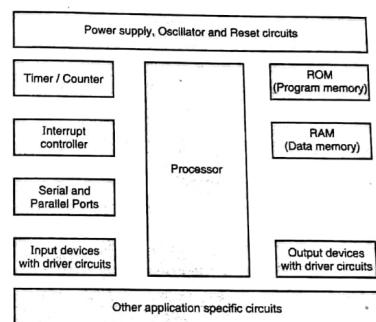

Fig. 1.2.1 : Hardware components of an embedded system
- Fig. 1.2.1 shows the components of the embedded system hardware.